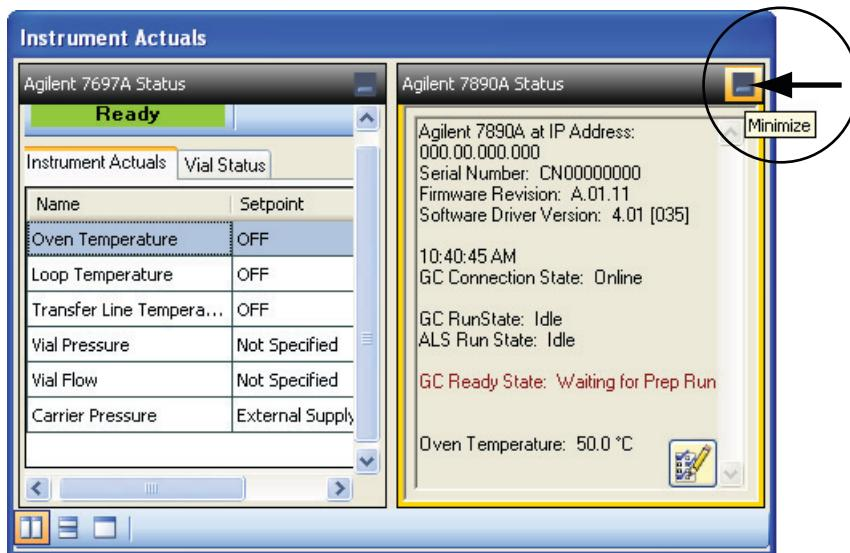

Figure 26 Minimizing Agilent 7890A Status panel
- 2 To view the full Agilent 7697A **Instrument Actuals** panel, hide the **Agilent 7890A Status** panel by clicking the minimize icon in the top-right corner (Figure 26).